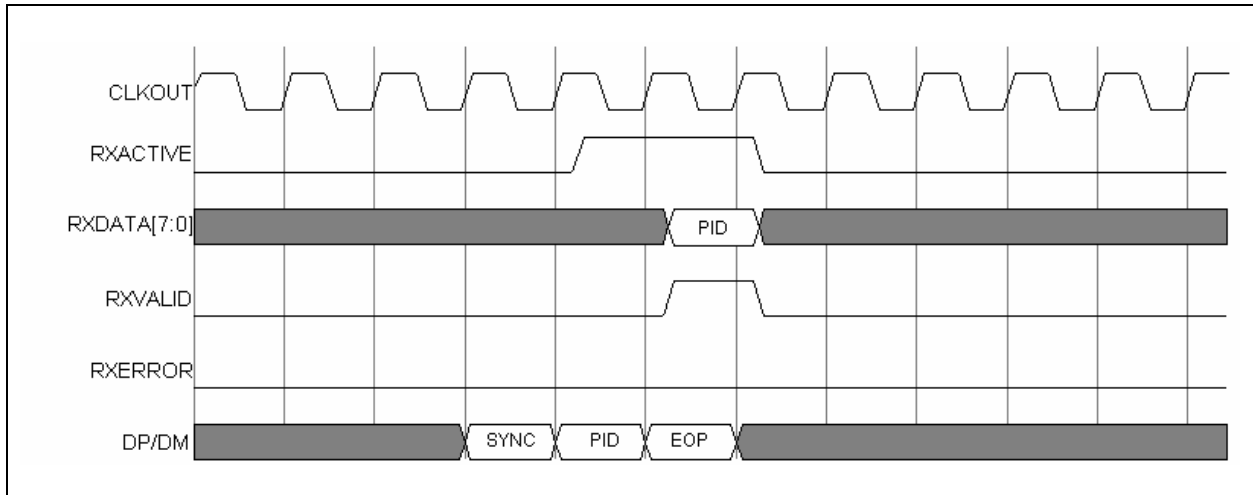

Figure 6.5 Receive Timing for a Handshake Packet (no CRC)
- Figure 6.5 shows the timing relationship between the received data (DP/DM), RXVALID, RXACTIVE, RXERROR and DATA signals.
- Figure 6.5, Figure 6.6 and Figure 6.7 are timing examples of a HS/FS PHY when it is in HS mode. When a HS/FS PHY is in FS Mode there are approximately 40 CLKOUT cycles every byte time. The Receive State Machine assumes that the Link captures the data on the DATA bus if RXACTIVE and RXVALID are asserted. In FS mode, RXVALID will only be asserted for one CLKOUT per byte time.
- In Figure 6.5, Figure 6.6 and Figure 6.7 the SYNC pattern on DP/DM is shown as one byte long. The SYNC pattern received by a device can vary in length. These figures assume that all but the last 12 bits have been consumed by the hubs between the device and the host controller.